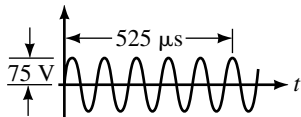

FIGURE 15–81
14. For the waveform of Figure 15–81, determine